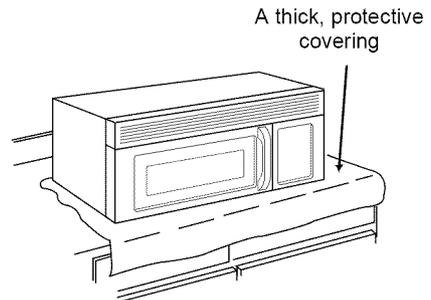

Figure 21
2. Cover the counter top or cooktop with a thick, protective covering to protect it from damage and dirt. See Figure 21.